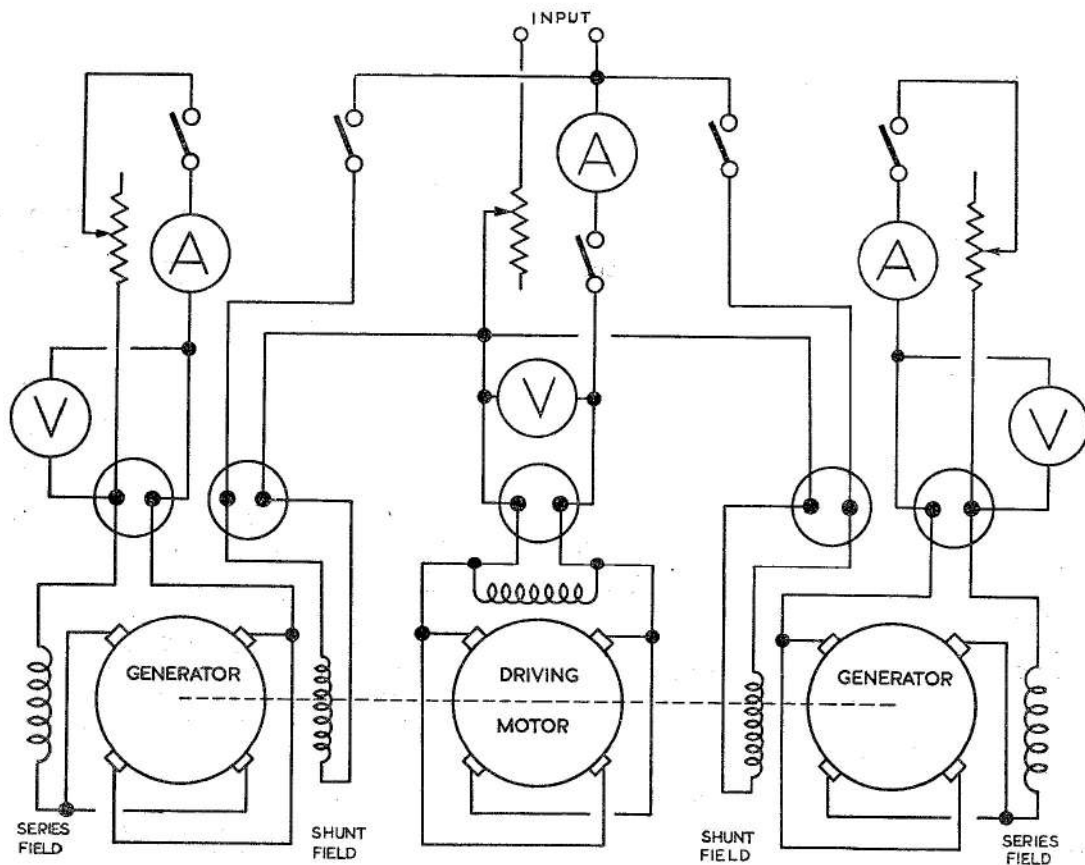

Fig. 1. Test circuit for motor generator, Type 13
**14.** Polarity of generators.—With the motor generator assembly wired according to the test circuit shown in fig. 1, connect the generator plugs in the following order:—field coil plug pin A to positive, and pin B to negative, supply. Run the motor generator set, and close the field switch. The polarity of the generator output must be plug pin No. 1 positive, and plug pin No. 2 negative. Open the field switch and repeat test for second generator.